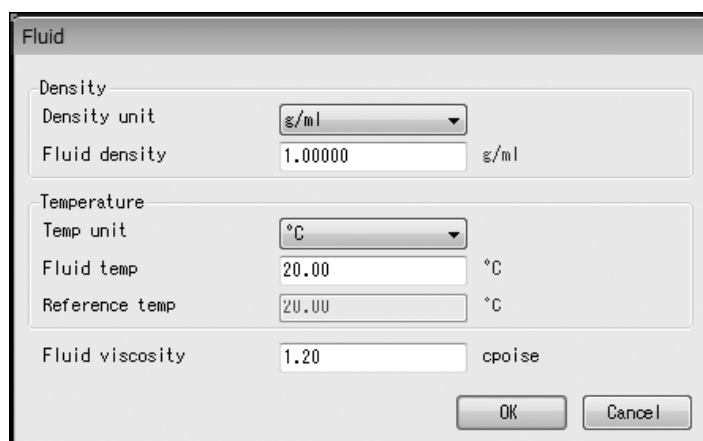

Fig. 3-33
- (1) Click "Setup (S)" from the menu, and then click on "Fluid" from the drop-down list of "Fld dev vars".
(2) The following window (Fig. 3-33) will be displayed. Here, set the parameter related to fluid.